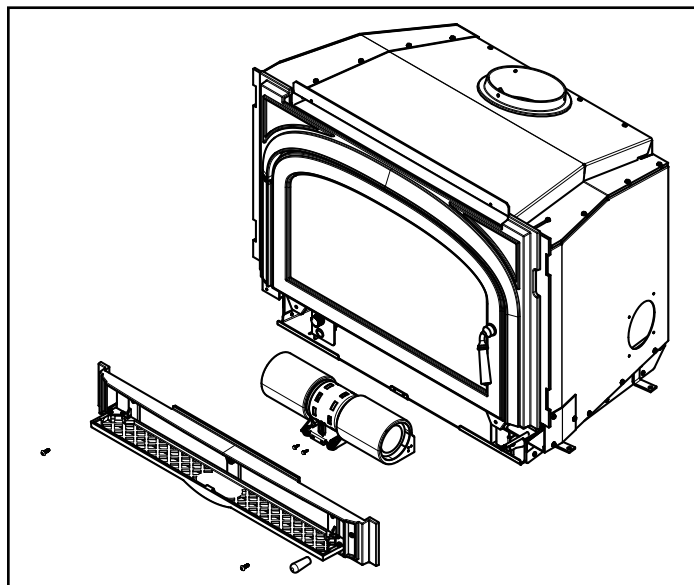

Figure 22.1
3. The grille on the blower access assembly is hinged. Swing the grille downward to expose the 2 screws (**Figure 22.1**).